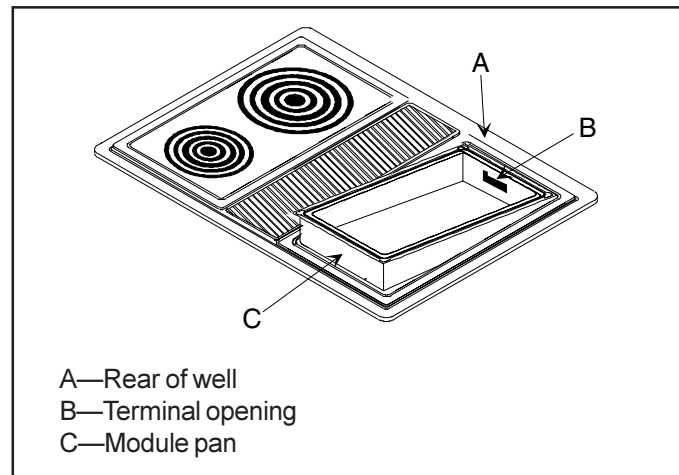

Figure 27
2. See Figure 27. Place module pan with terminal opening towards plug.